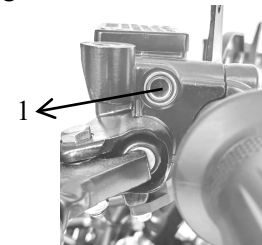

Fig12
Inspect the brake fluid level (Fig12)
① Brake fluid level observation window (Fig12)